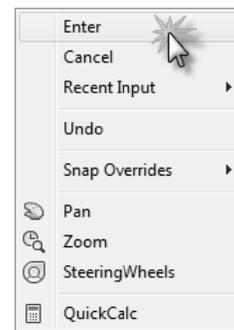

FIGURE 2-1.5 Right-click Menu; Line command active
10. After clicking your second point (i.e., the endpoint), **right-click** anywhere on the screen and select **Enter** from the pop-up menu (Figure 2-1.5).